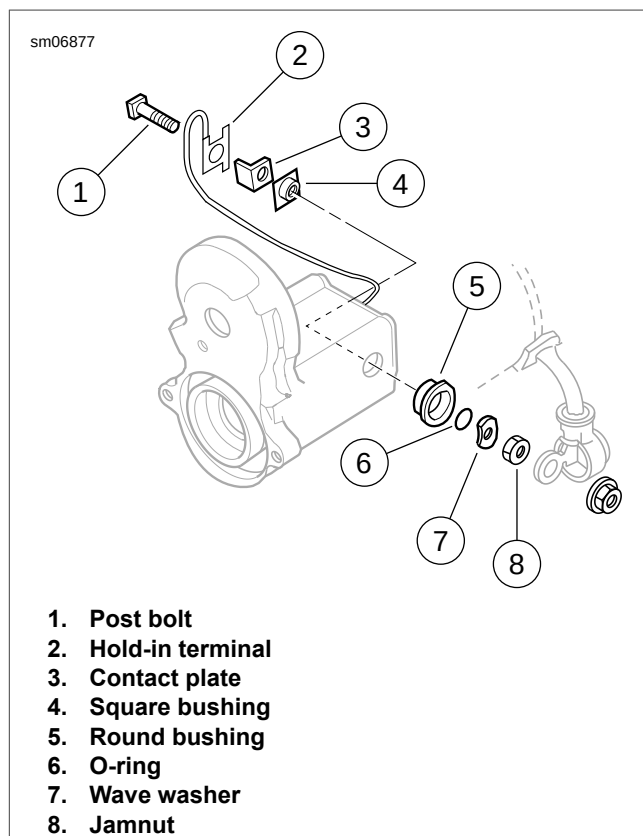

Figure 6-20. Short Post Contact (starter)
- b. See Figure 6-20. Remove jamnut (8), wave washer (7), O-ring (6) and round bushing (5):
- c. Remove the post bolt (1).
- d. Remove the hold-in terminal (2) from the post bolt.
- e. Remove the contact plate (3) and the square bushing (4).